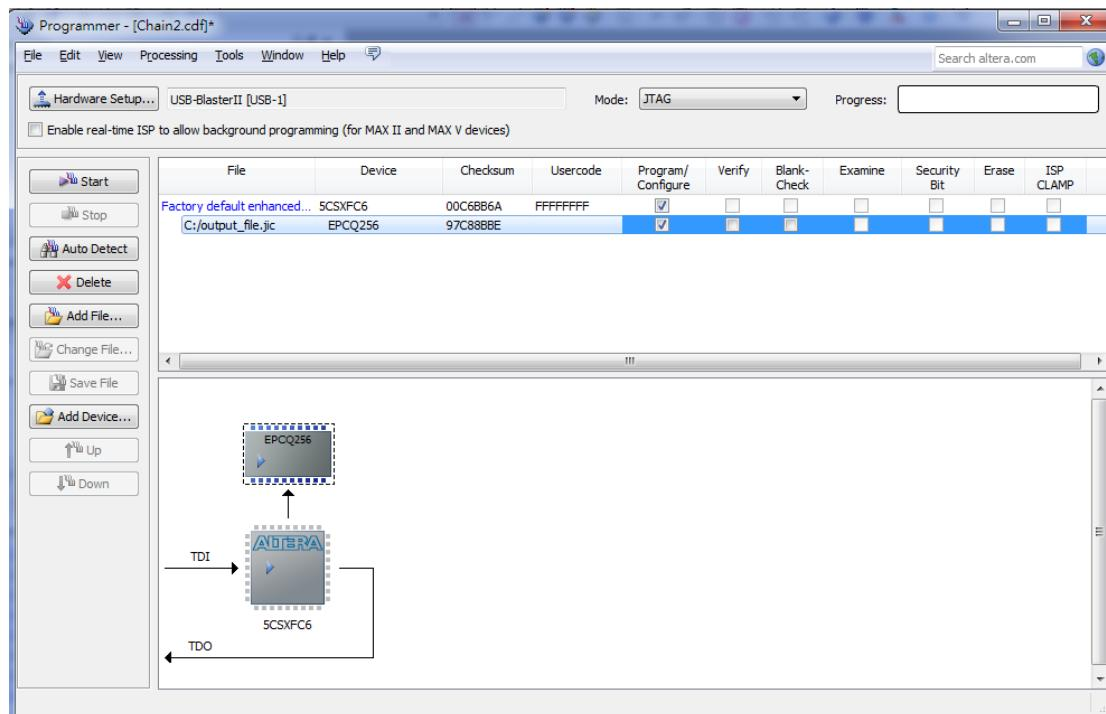

Figure 6-6. Quartus II programmer window with one JIC file
2. Program the serial configuration device by checking the corresponding **Program/Configure** box, a Factory default SFL image will be load (See Figure 6-6).